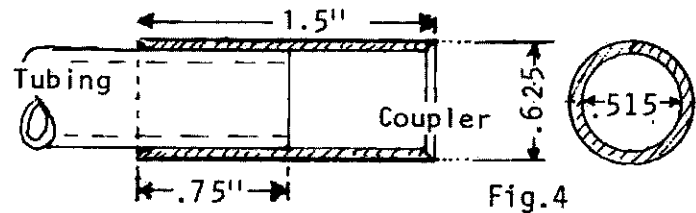

Fig. 4
4. Construct two couplers (3 for 6 ft version) as shown in Fig. 4.